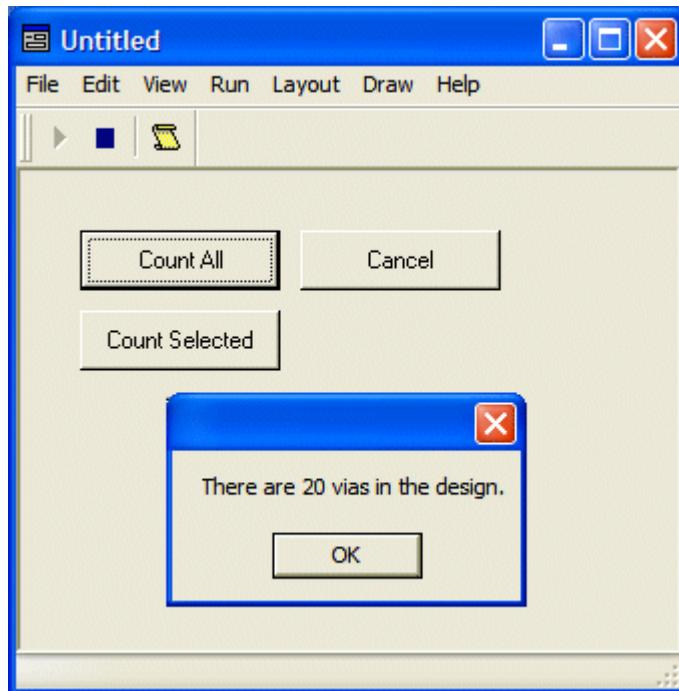

Figure 4-24. The Count All button now works – hurray!
- 14) Now click the **Count All** button. The script associated with this button is executed and the *MsgBox()* appears on the screen (Figure 4-24).